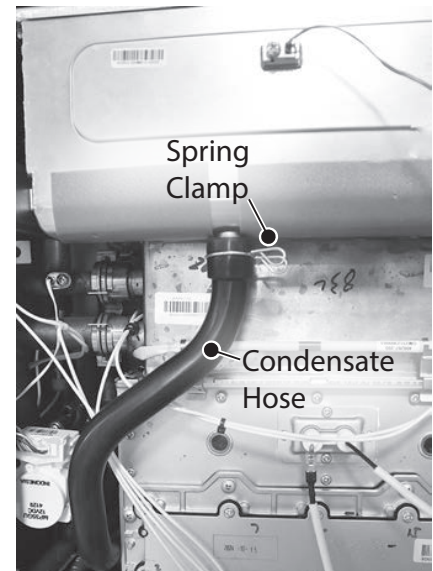

Figure 198 - Condensate hose removal
**11** Disconnect the black hose from the top of the condensate trap and then from the front of the heat exchanger (HEX). Compress the spring clamp and pull it down along with the black hose. Place the spring clamp aside in a safe place for reinstallation. Dispose of condensate hose properly. See Figure 198.